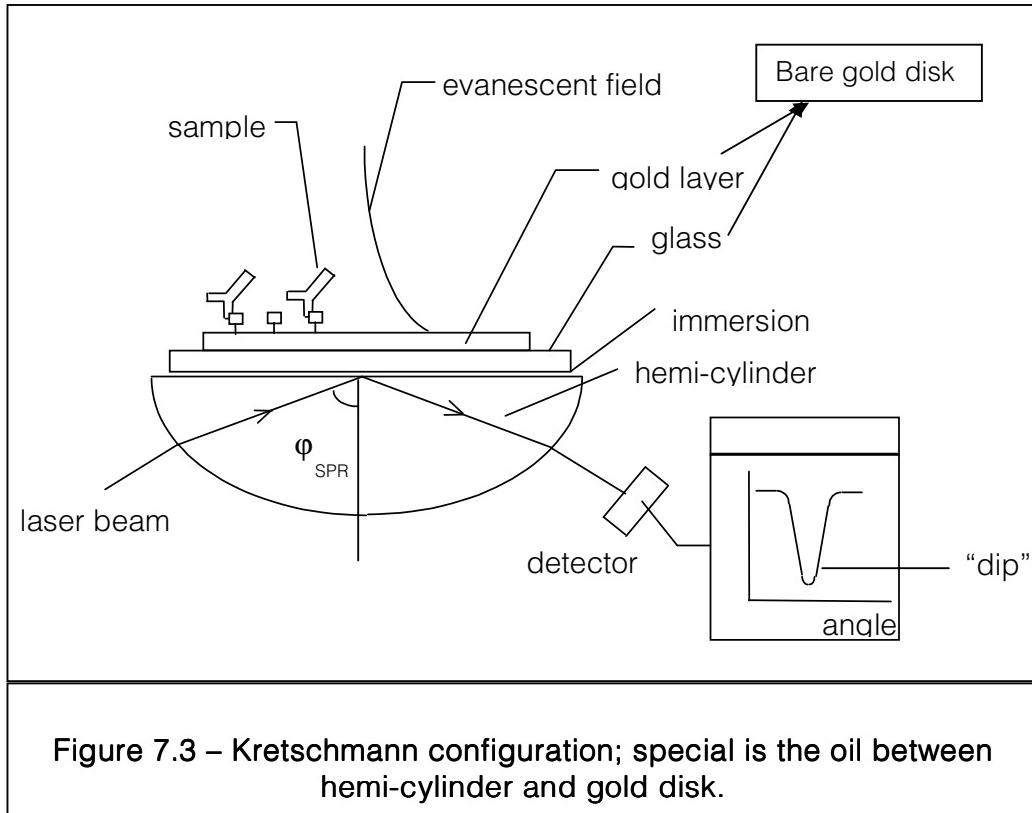

Figure 7.3 – Kretschmann configuration; special is the oil between hemi-cylinder and gold disk.
Augustin Fresnel presented in 1821-32 theories that, in principle, could have explained the SPR-phenomenon. James Clark Maxwell presented in 1873 all theories necessary to model SPR. He introduced the displacement current and wrote down the relations between the electric and magnetic fields, now known as the Maxwell's Equations. Loss of light incident onto a grating was first observed by R.W. Wood in 1902 while he was studying diffracted spectra of metallic gratings (Woods anomalies). In 1941 Frano suggested an excitation of electromagnetic surface waves. Pines and Bohm assumed that the observed energy losses were due to the excitation of plasma oscillations or "plasmons" of the conducting electrons (1951). This was in 1957 theoretically explained as Surface Plasmons (SP) by Ritchie. This theory was confirmed experimentally in reflection studies by Powell and Swan (1959). Later, Stern and Ferrell, observed "significant effect" on the angle of incidence at which energy losses occurred (1960). Turbadar presented experimental results of the SPR-phenomena and showed that it could be predicted by the thin film theory, 1968. Otto invented the attenuated total reflection (ATR) method to excite a surface plasmon. Between the prism and metal layer is a layer with air. In 1971 the method was improved by Kretschmann by applying a thin metal film direct onto an ATR prism, denoted the Kretschmann configuration. The Kretschmann configuration is the most used configuration, which is also the basic configuration of the Autolab ESPRIT instrument (Figure 7.3).